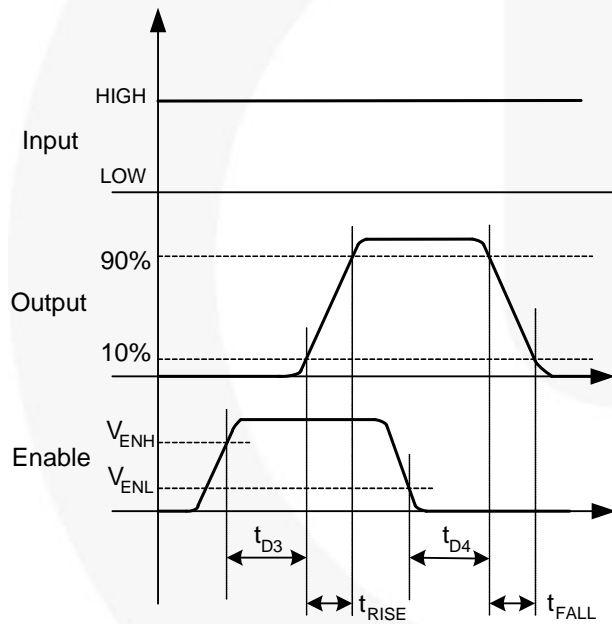
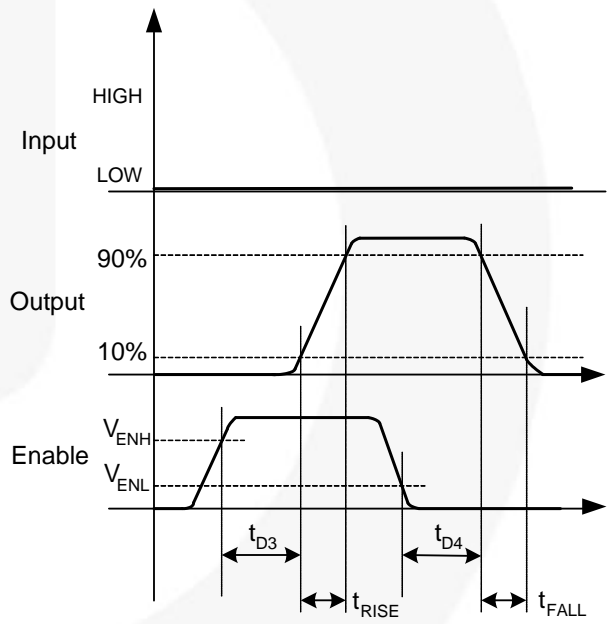

Figure 10. Non-Inverting (IN HIGH)
Figure 11. Inverting (IN LOW)
12. See *Timing Diagrams of Figure 10 and Figure 11.*